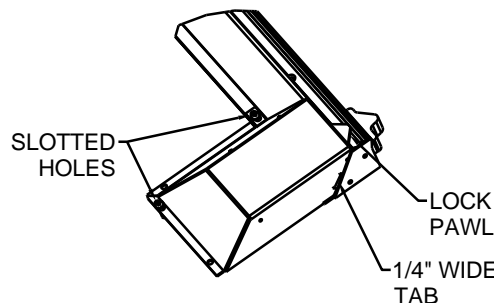

Fig. 9 – POWER LOCKS
c) Mount right power lock with 1/4" pan head screws centered in two slotted holes. See *Fig. 9*